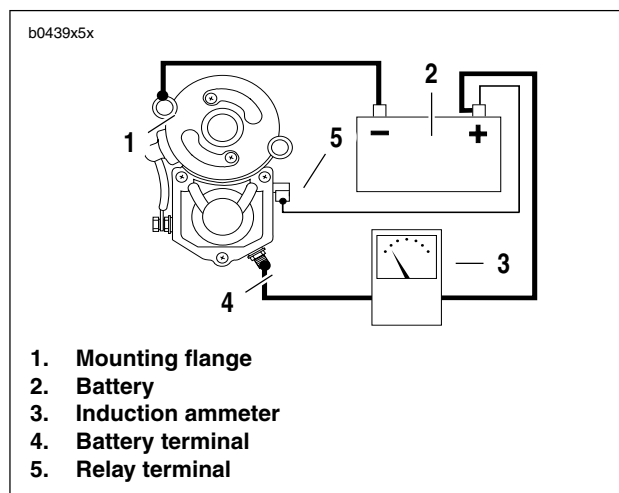

Figure 5-10. Free Running Current Draw Test
- See Figure 5-10. Attach one heavy jumper cable (6 gauge minimum).
- To the starter mounting flange (1).
- To the positive (+) terminal of the battery (2).
- To an inductive ammeter (3). Continue on to the battery terminal (4) on the starter solenoid.
- To the solenoid relay terminal (5).